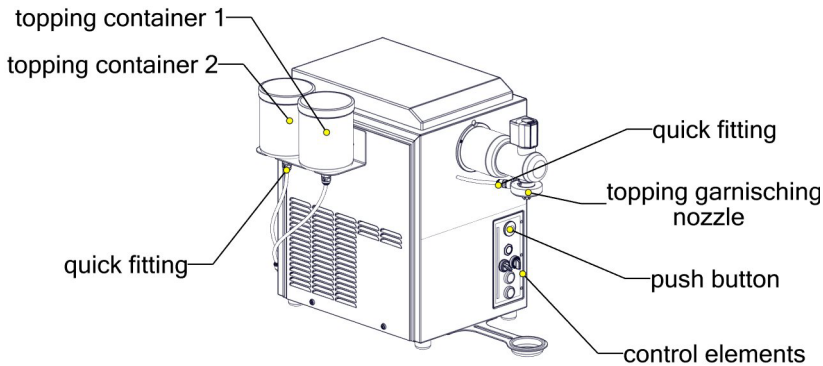

fig. 1
- Depending on the desired topping turn the selector button for the topping (right selector button) to the left or to the right. Right position is the 1 container. Left position is the 2 container (*page 3, fig. 1*).
- Depending on the desired topping turn the topping-selector-button (right selector button) to the left (2 container) or to the right (1 container) (*page 3, fig. 1*)
- Turn the topping-selector-button to the „middle“ and press the press-button to get whipped cream **without** a topping. (*page 3, fig. 1*)
- Depending on the desired topping, which should be changed, turn the topping-selector-button (right selector button) to the left or to the right. Right position is the 1 container. Left position is the 2 container (*page 3, fig. 1*).